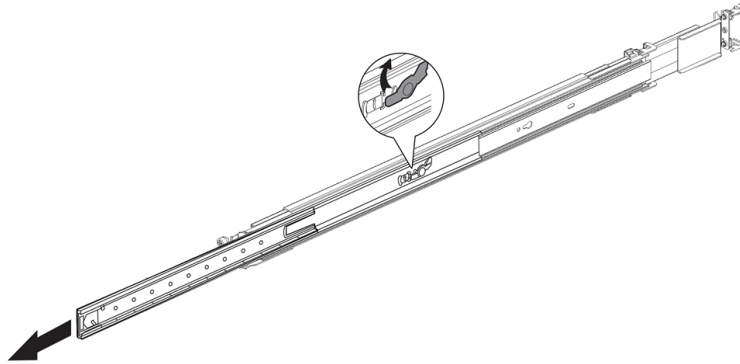

Figure 10: Extending the Slider Assembly to Fit the Rack
8. Locate the intermediate rail inside each slider assembly and pull it out to its fullest extent. See Figure 10.